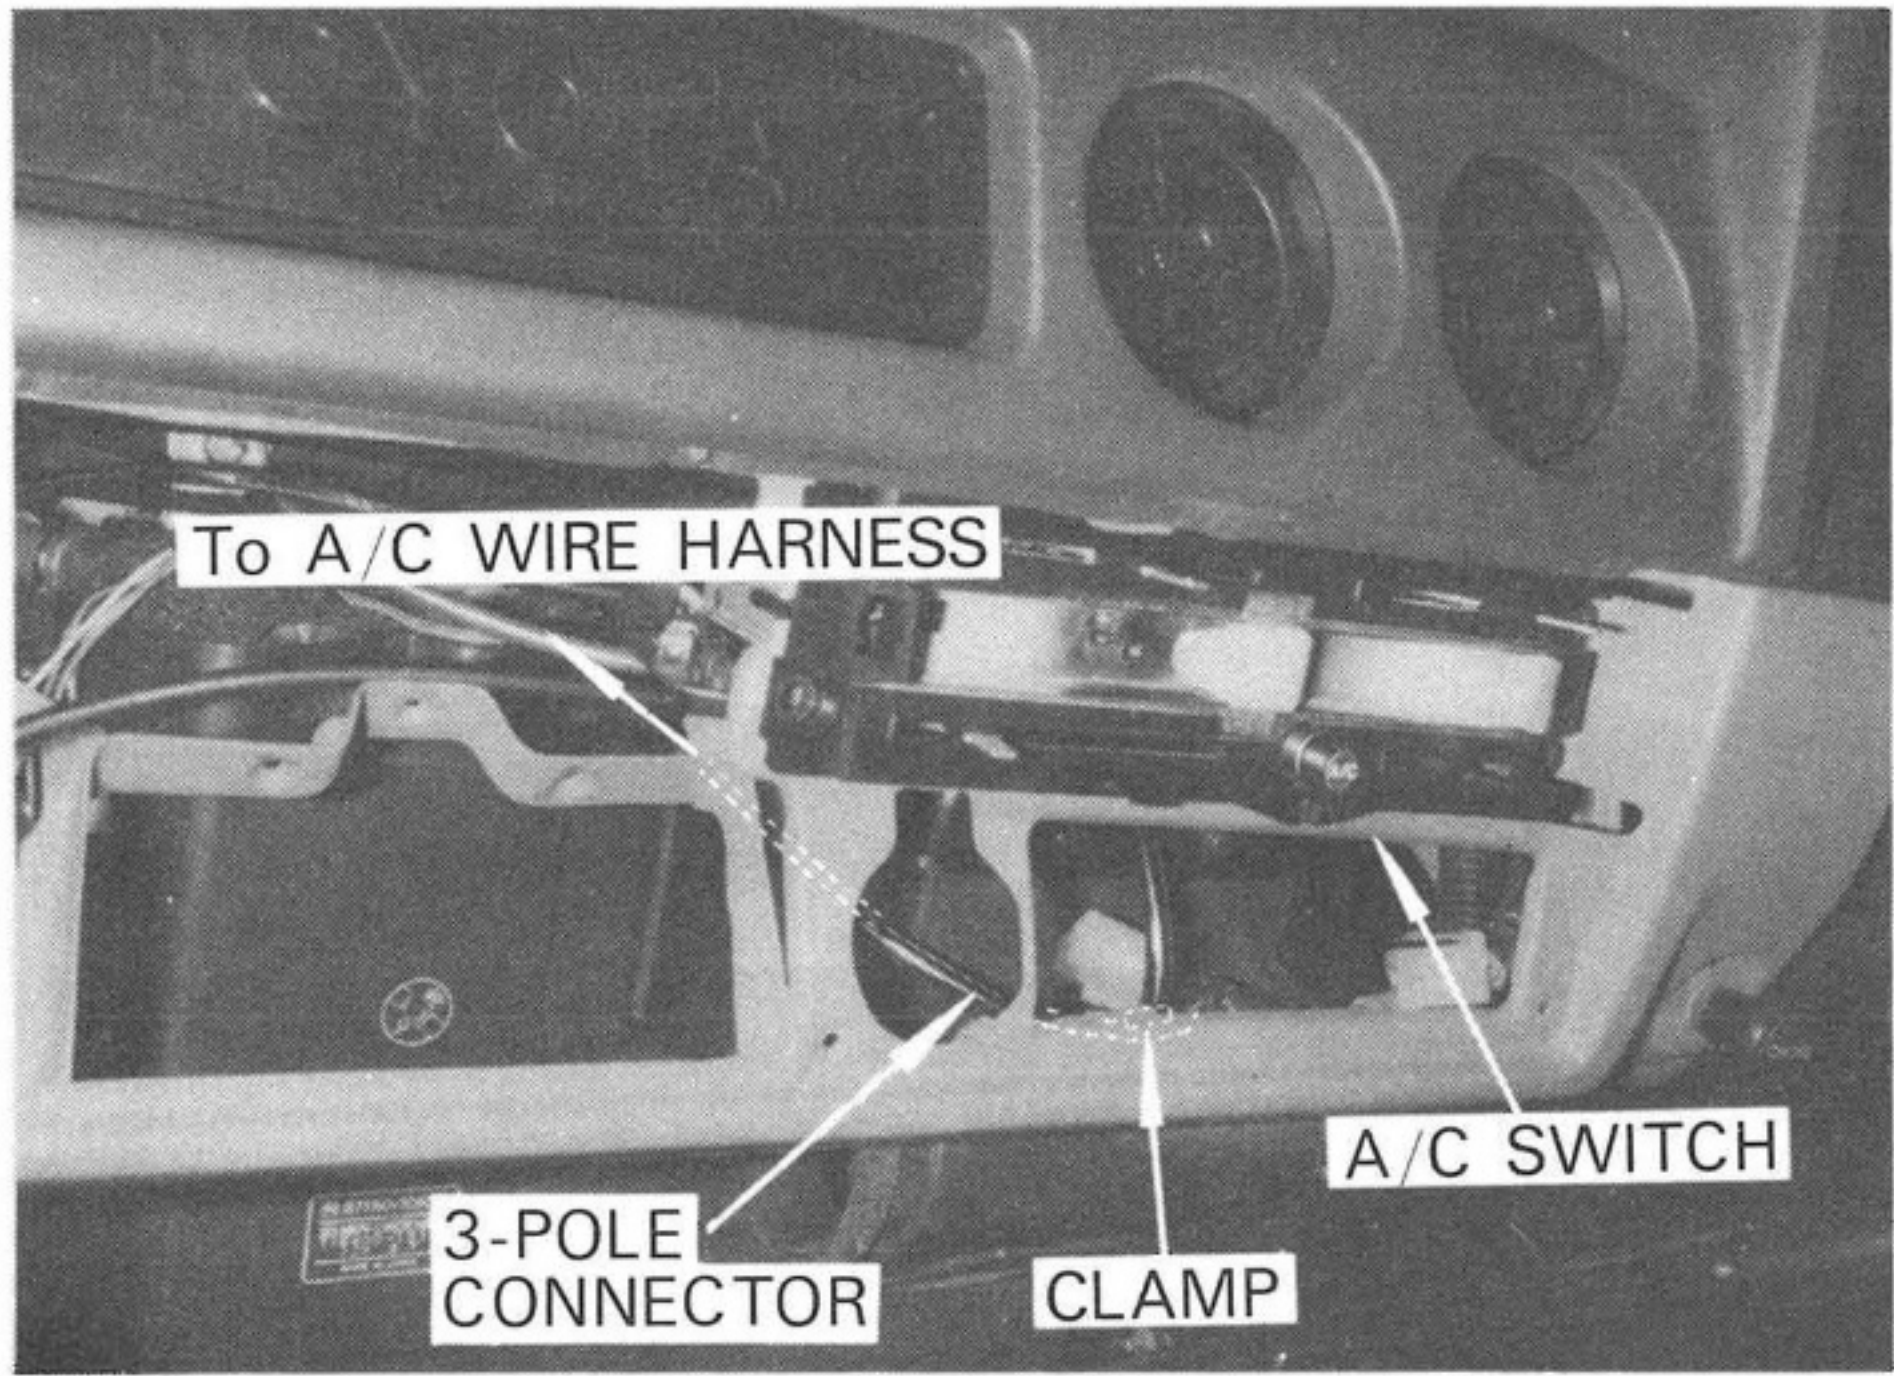

Fig. 1-11
- C) Reinstall the A/C control panel and route the A/C wire harness as shown in Fig. 1-11.
See Fig. 1-11.